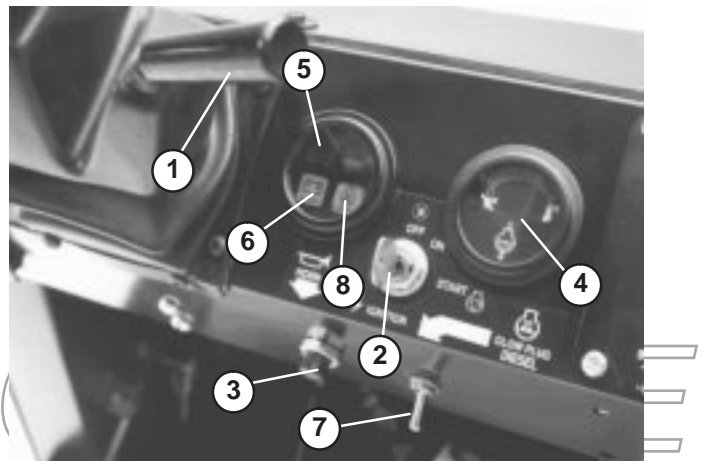

Figure 22
Lever on right side of console allows steering wheel to be adjusted for operator comfort (Fig. 22).
Pressing button activates horn (Fig. 22).
Registers coolant temperature in engine. Operates only when ignition switch is in On position (Fig. 22).
Light glows (Fig. 22) if engine oil pressure drops below a safe level while engine is running. If light flickers or remains ON, stop vehicle, turn off engine and check oil level. If oil level was low, but adding oil does not cause light to go out when engine is restarted, turn engine off immediately and contact your local TORO distributor for assistance.
Use to preheat engine cylinders prior to cold engine starting procedures — cylinders are preheated automatically during warm engine start operation. For cold starting, push switch lever upward and hold while watching indicator (Fig. 22). Indicator will glow orange when the glow plugs are activated. Length of time necessary to preheat cylinders should be determined by atmospheric temperature; refer to Starting /Stopping Engine.
The ignition switch (Fig. 22), used to start and stop the engine, has three positions: OFF, ON/Preheat and START. Rotate key clockwise — START position — to engage starter motor. Release key when engine starts. The key will move automatically to the ON position. To shut engine off, rotate key counterclockwise to OFF position.
Illuminates when battery is being discharged. If light illuminates during operation, stop vehicle, turn off engine and check for possible causes, such as alternator belt (Fig. 22).
5. When temperature is below 15 °C (60 °F), push glow plug switch upward to ON position (Fig. 22) and hold for suggested interval.